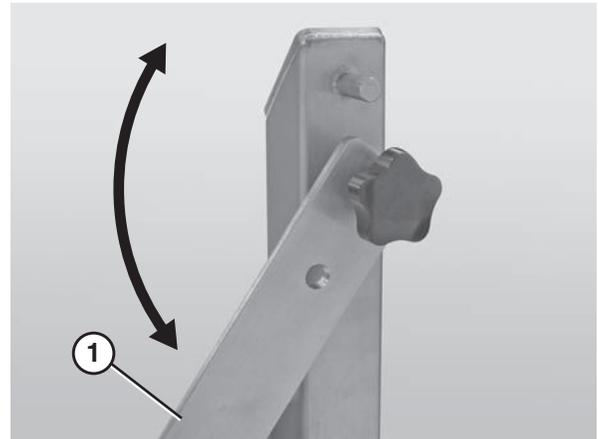

Figure 18
6. Lower the quick release arm (**Figure 18, item 1**) on one of the stands. *Note: if the conveyor is not equipped with Quick Release (QR Type) stands, it will be necessary to remove the entire stand. For detailed instructions, refer to the “Sanitary Support Stands Installation, Maintenance and Parts Manual.”*